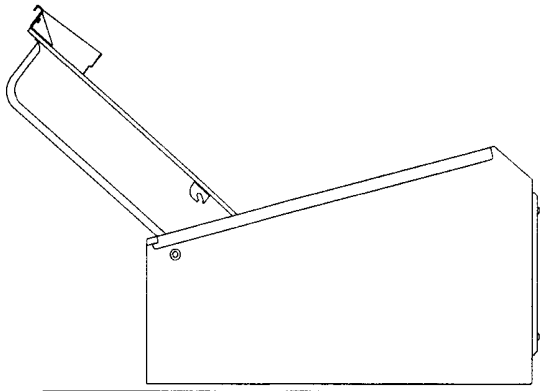

FIGURE 3
3. Firmly grasp the playfield and slide it forward (toward you) along the bottom track slide brackets. Rotate the front of the playfield down and set it on the floor as shown in Figures 3 through 5.